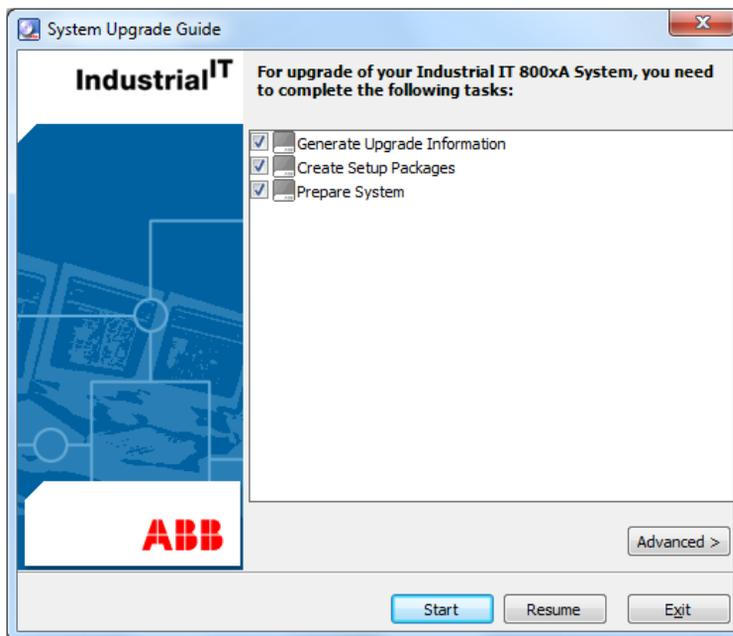

Figure 49. System Upgrade Guide
4. Double-click `ShellUpgrade.exe` to launch the System Upgrade Guide (Figure 49).
7. Follow the instructions on the Upgrade Wizard pages until reaching the initial System Upgrade Wizard dialog box (Figure 49) and click **Exit**.